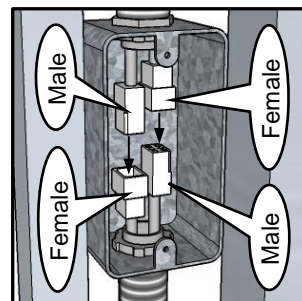
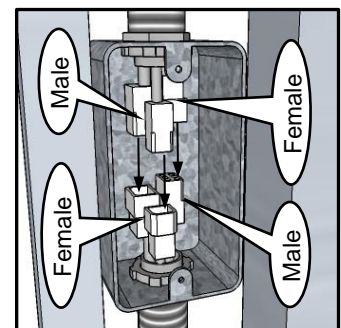

Figure 22
Figure 23
- 3** On 3-stop dumbwaiters, the wires dropping down will have a male and female connector as will the junction box. Make sure the male and female from above plug into the male and female from below. **(for 3-stops see Figure 22) (for 4-stops see Figure 23)**